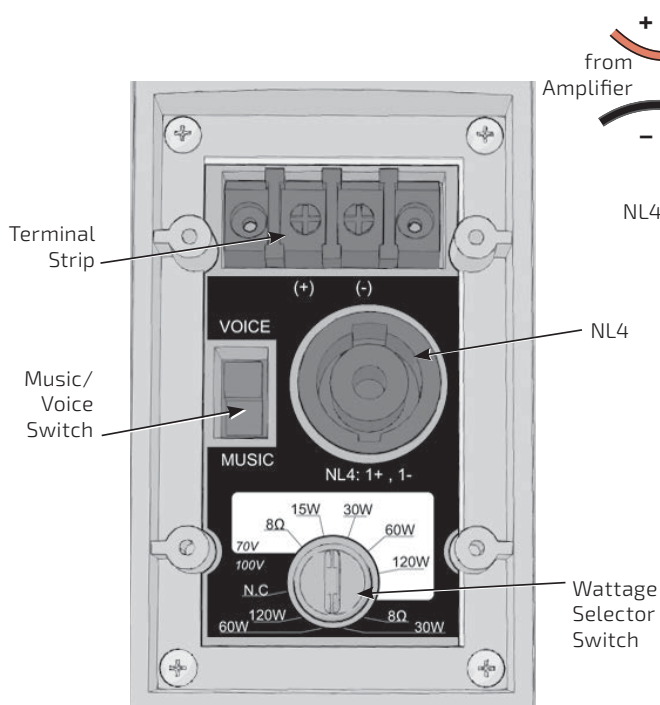

Figure 5a. R.15 input panel
R.15: The connectors are wired in parallel. If utilizing the NL4-type connector, refer to the detail inset. If utilizing the weather cover, insert the cable end through the gland nut and weather cover, and wire the terminal strip. Set the Music/Voice and Voltage selector switches according to your application (see **Figure 5a**).